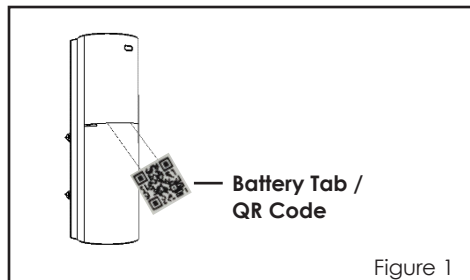
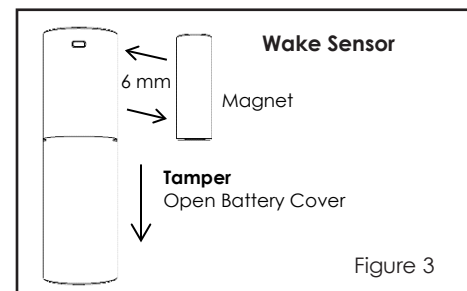

Figure 1
Figure 3
1. Pull the exposed plastic tab from the sensor. (Figure 1)
2. The LED indicator will be lit for three (3) seconds to indicate a successful booting.
4. If network is not found after 3 minutes, the sensor will go into sleep mode. To wake the sensor again, you need to use magnet or tamper (Figure 3) to trigger a pairing process, and then sensor will repeat steps from 3 to 4.